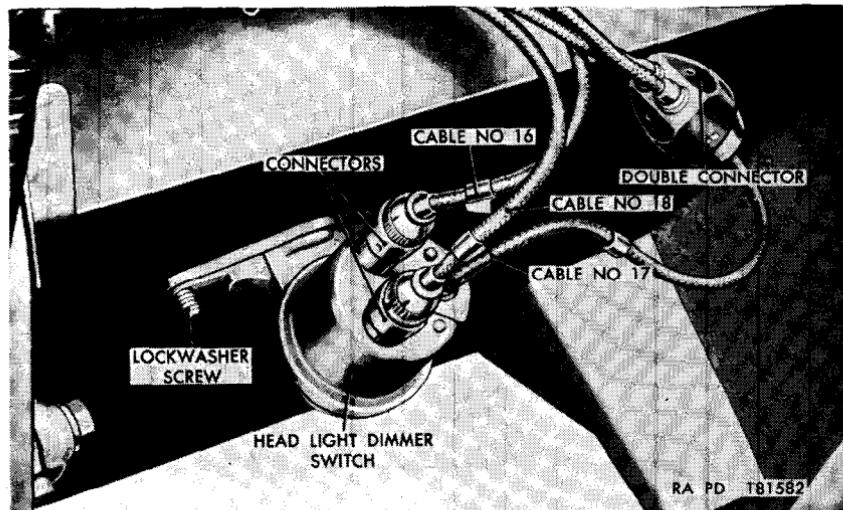

Figure 86. Headlight dimmer switch—installed.
183. Headlight Dimmer Switch (fig. 86)
a. Removal. Disconnect the connectors in the two cables No. 25 (fig. 86). Remove the two cap screws and lockwashers securing the horn to the horn bracket and remove horn.